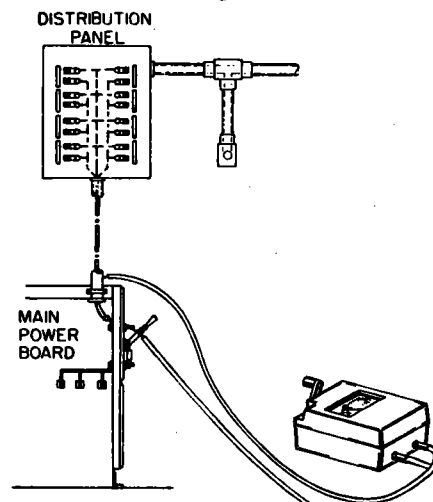

Figure 3-4. Wiring Installation, Main Power Board Test Connections
c. WIRING INSTALLATION. — Each circuit of a wiring installation can be tested to ground separately by working from the distribution panel. Alternately, by connecting at the main power board (figure 3-4) the entire system can be tested to ground at one time, providing all switches in the distribution panel are closed.